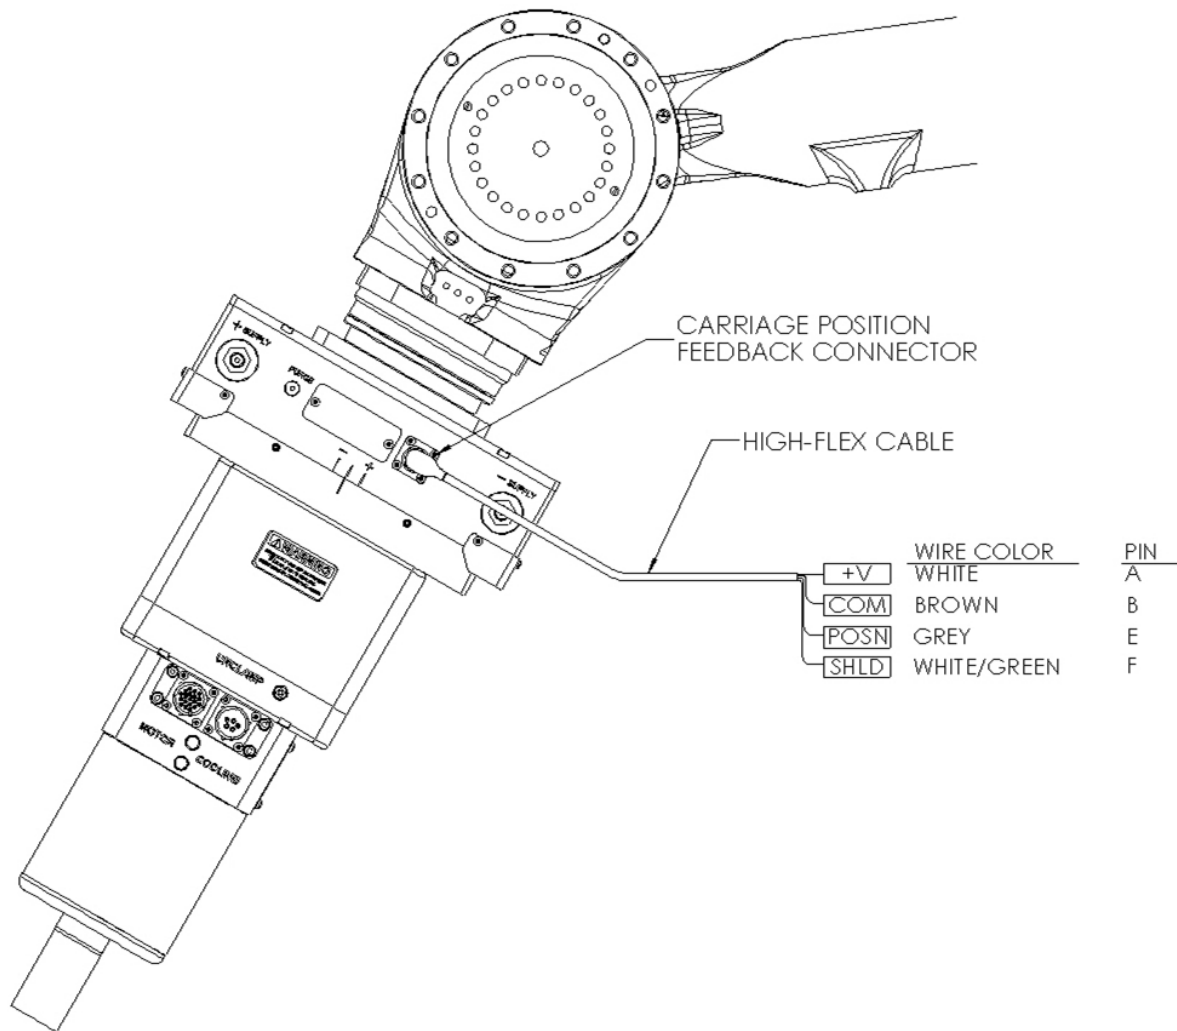

Figure 9: Electrical Connections
2. Attach the High-Flex Cable wires as shown in Figure 9.